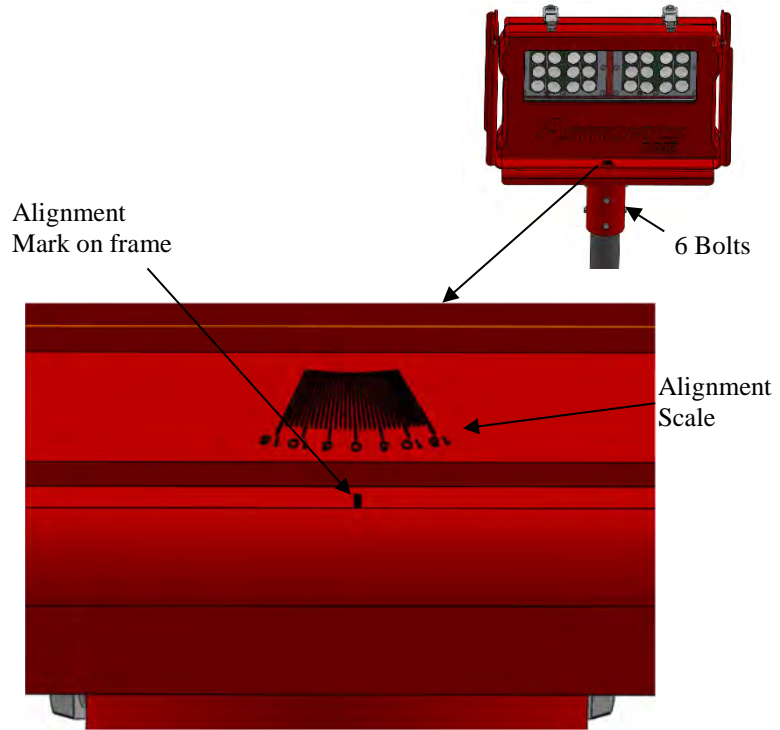
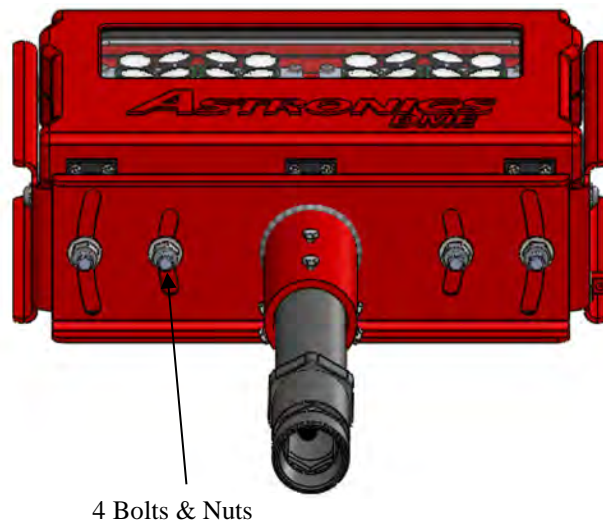

Figure 3-1 Horizontal Alignment Markings
Figure 3-2 Horizontal Alignment Bolts
14. Loosen the 6 bolts on the light fixture Frame Assembly where it goes over the EMT. See Figure 3-1.
See Figure 3-1 and Figure 3-2.